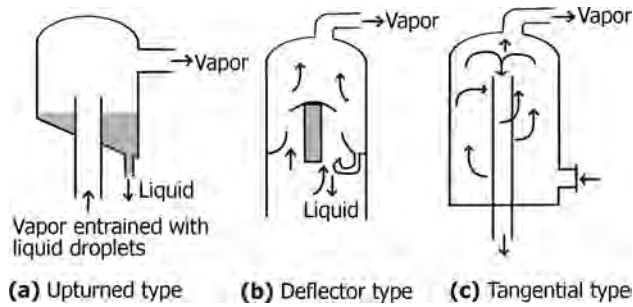

FIGURE 11.26 Different types of entrainment separators.
- Figure 11.26 illustrates some commonly used entrainment separators in evaporation equipment.